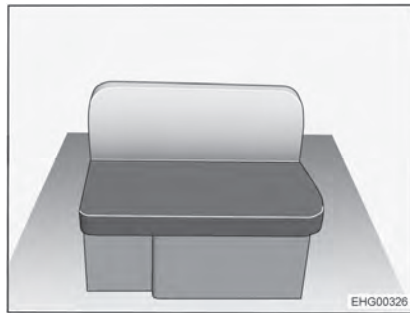

Fig. 21 Divan, on the right
- Remove the seat cushion and the back cushion from the divan (Fig. 21).